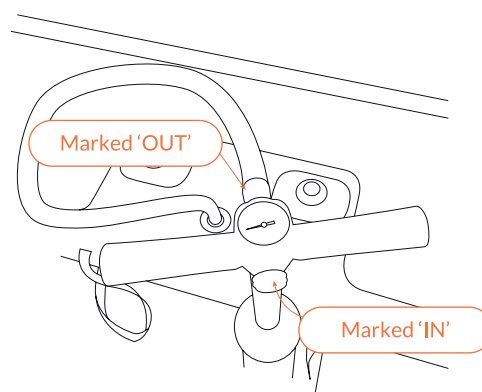

Fig 11 – Stirrup pump - attach inflation hose and pressure gauge
1. (a) **To Inflate:** Ensure the inflation hose is connected to where it is clearly marked 'OUT' (Fig 11).
2. (b) **To Deflate:** Ensure the inflation hose is connected to where it is clearly marked 'IN' (Fig 11).